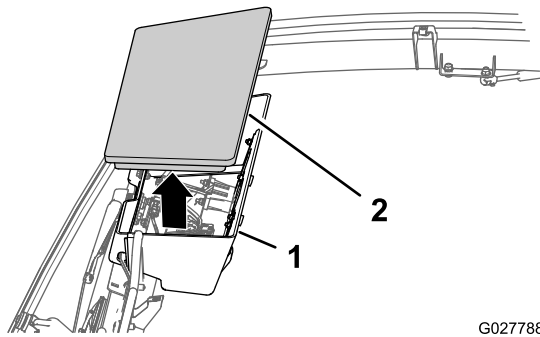

Figure 34
3. Remove the plug from the overhead console (Figure 34).